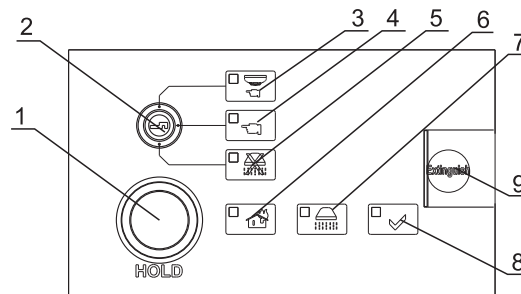

Fig.4
-  Indicator “Power supply” - Module is power supplied (pos.8, fig.4)
-  Common Indicator “Fire Condition 2nd Stage ” – continuous red light (pos.6, fig.4)
-  Indicator “Manual Mode” – continuous yellow light (pos.4, fig.4)
-  Indicator “Manual-Auto Mode” – continuous yellow light (pos.3, fig.4)
-  Indicator “Disable Extinguishing” – continuous yellow light (pos.5, fig.4)
-  Indicator “Low Pressure” – fault condition Low pressure into the Extinguishing installation - continuous yellow light (pos.7, fig.4)
- Manua/Auto – **Завърта се секретния ключ в позиция “Ръчно-автоматичен режим”. Светва индикатора** (pos.3, fig.4);
- Manual Mode - **Завърта се секретния ключ в позиция “Ръчен режим”. Светва индикатора** (pos.4, fig.4).
- Disable Extinguishing - **Завърта се секретния ключ в позиция “Забрана гасене”. Светва индикатора** (pos.5, fig.4);
- Hold Extinguishing – press button “HOLD”. The evacuation time is extended (pos.1, fig.4);
- press the button to activate the extinguishing (pos.9, fig.4).